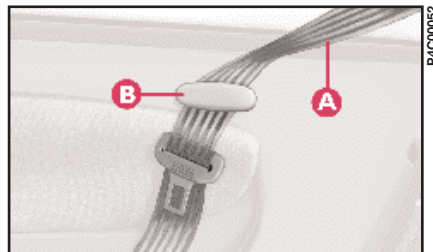

fig. 76
1) Make sure that the side seat belts **A** (fig. 76) have been inserted into the corresponding bracket **B**.